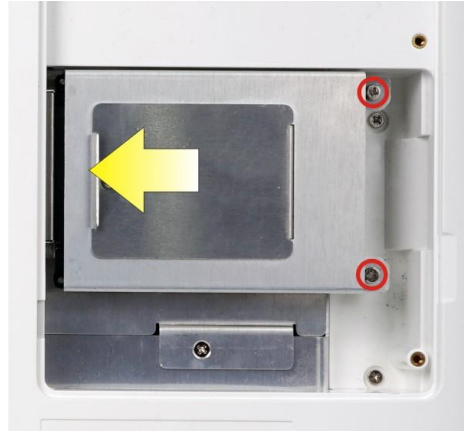

Figure 3-4: HDD Installation
- Step 6:** Place the HDD and slide it to securely connect to the SATA connector of the POCi-W22C-ULT5 (**Figure 3-4**).
Step 7: Secure the HDD bracket by fastening the two retention screws previously removed (**Figure 3-4**).